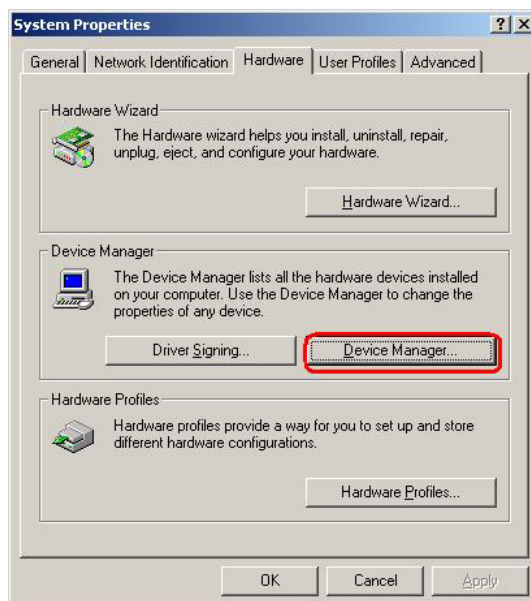

Figure 6-5: Double Click the Device Manager Tab
Step 3: Double click the **Device Manager** tab (Figure 6-5).